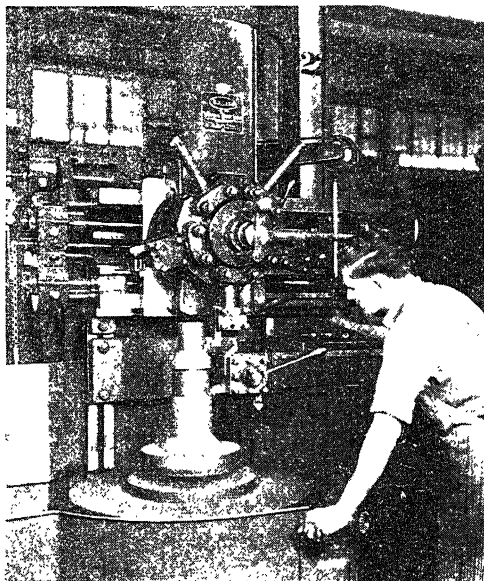
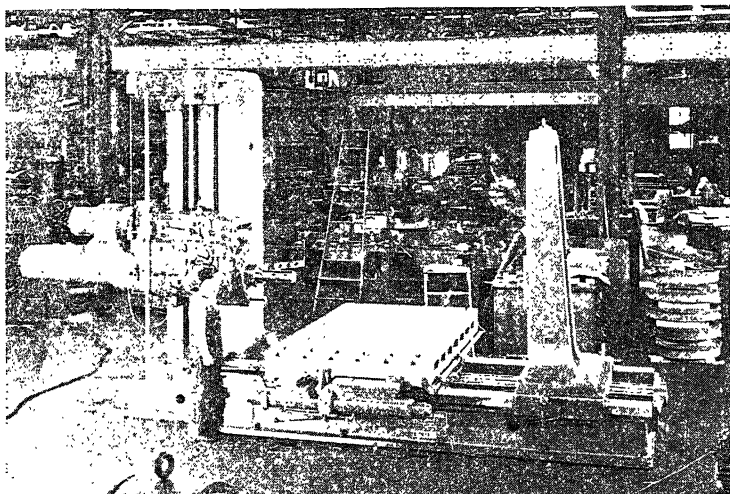

FIG. 8.—An interesting job in a vertical boring mill. (Courtesy of The Bullard Company.)
FIG. 9.—A horizontal boring mill. (Courtesy of William Sellers and Company.)
*The Boring Mill.*—There are two distinct types of boring-mill design, the vertical (Fig. 8) and the horizontal (Fig. 9), both of which are modifications of the lathe. Boring is the operation of enlarging a hole, usually by means of a single cutting tool, and the boring mill is designed primarily for the purpose of finishing holes that are impracticable to finish in a lathe or other machine because of the size or shape of the casting.